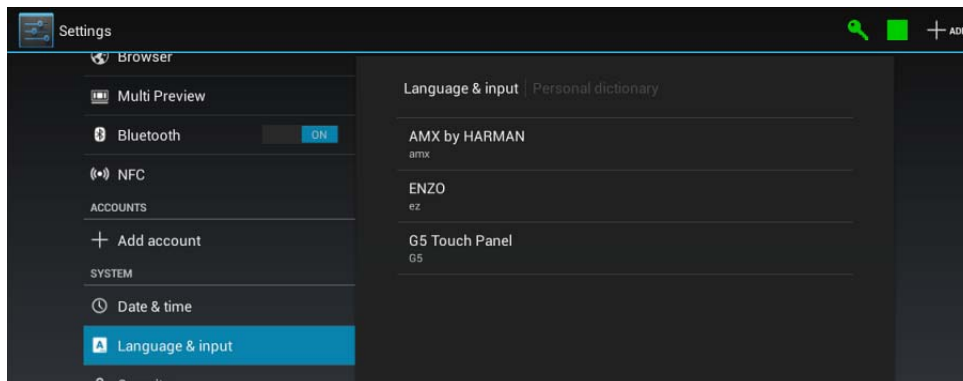

FIG. 70 Personal Dictionary window
1. In the *Language & Input* page, press **Personal dictionary** to open the *Personal Dictionary* window (FIG. 70).